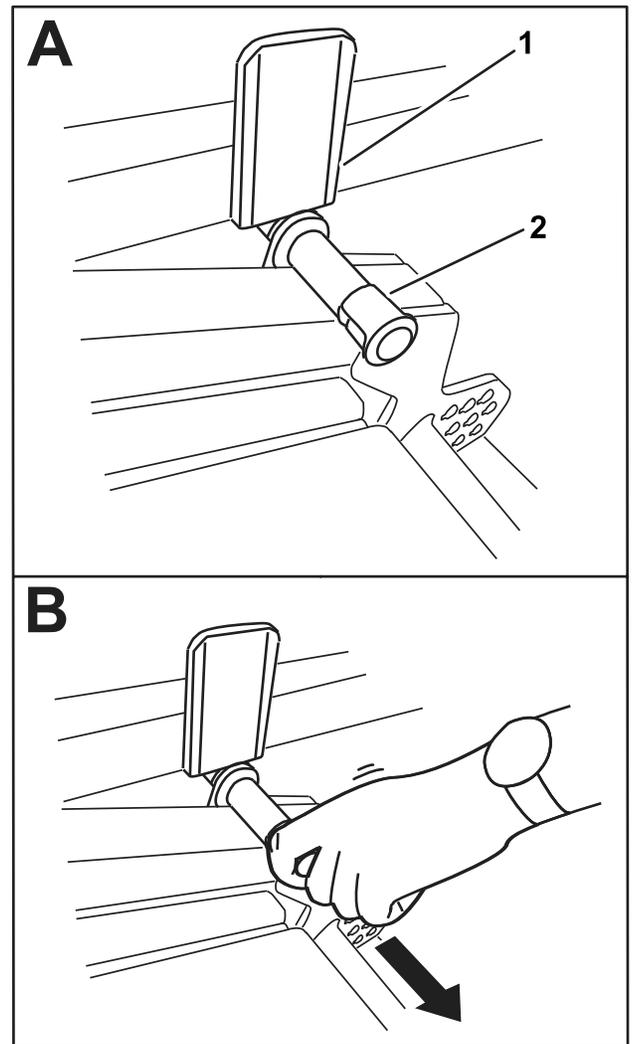

Figure 43
2. Slowly rotate the cutting unit down until the pin contacts the lift-arm plate (A in Figure 43).
3. Use your foot to press down on the cutting unit, then pull out on the pin (B in Figure 43) to let the cutting unit settle into the TRANSPORT position.